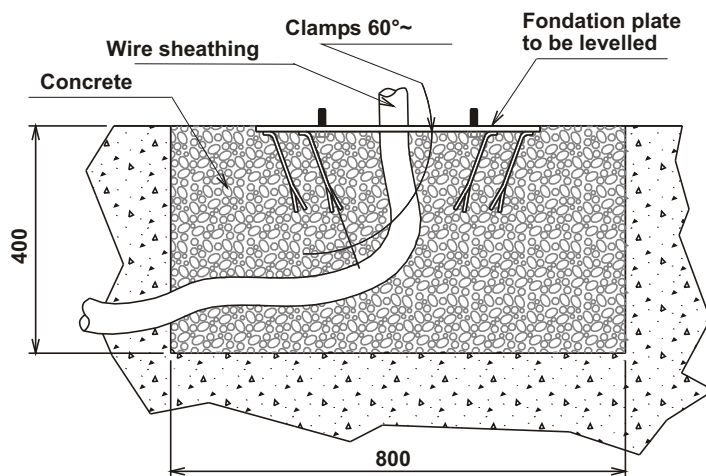

Fig. 8
- Widen the foundation plate clamps at 60° (Fig. 8)
- Fill the hole with R425 concrete and place the foundation plate as in Fig. 8.